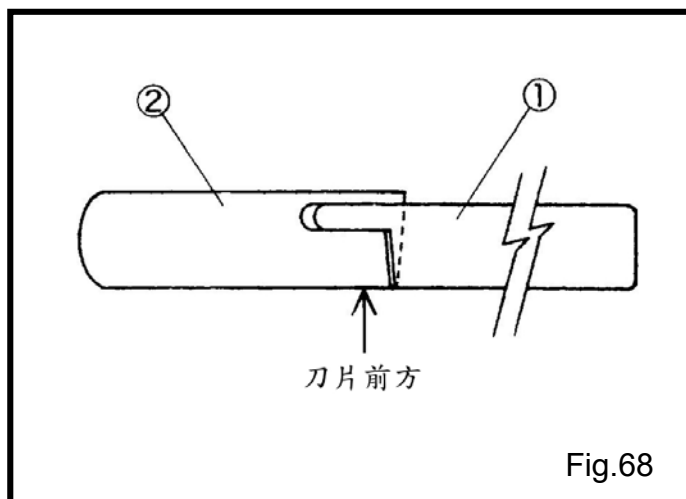

Fig.68
- (1) 當針在最高點，上切刀在左邊時壓腳要貼著針板上，上切刀①刀刃要貼合下切刀②的刀刃。(Fig.68)
上刀①和下刀②成一直線時，上刀不能碰到壓腳壁，正確後固定彈簧軸環。(Fig.68)
- (1) When the needle is at the highest point and the upper knife① is at the extreme left, the presser foot touches the stitch plate, and the upper knife① touches the lower knife② closely. (Fig.68)
Align the front sides of the upper① and lower② knives without touching the upper knife to the presser foot. After check them, fix the knife holder guide collar④ with the screw. (Fig.68)